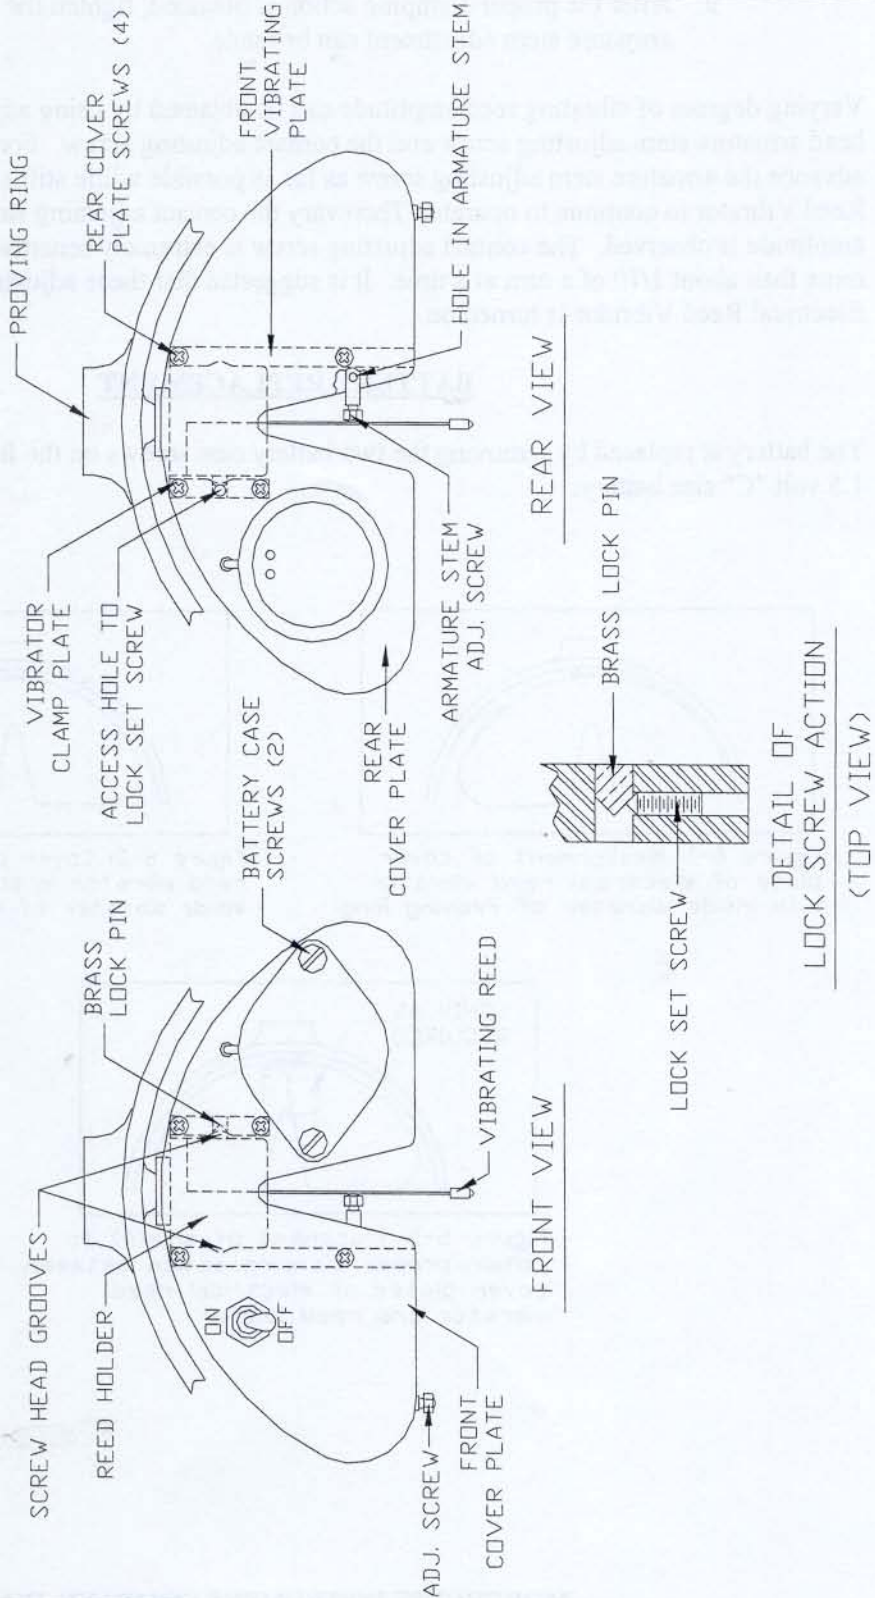

Figure 6-4. Detail of electrical reed vibrator
2. Refer to Figure 6-4 and notice the detail of the lock set screw. The set screw has a cone end which bears on the cone end of the brass lock pin. Turning the set screw in forces the lock pin against the side of the reed holder. This action forces the Electrical Reed Vibrator square with and against the reed holder.